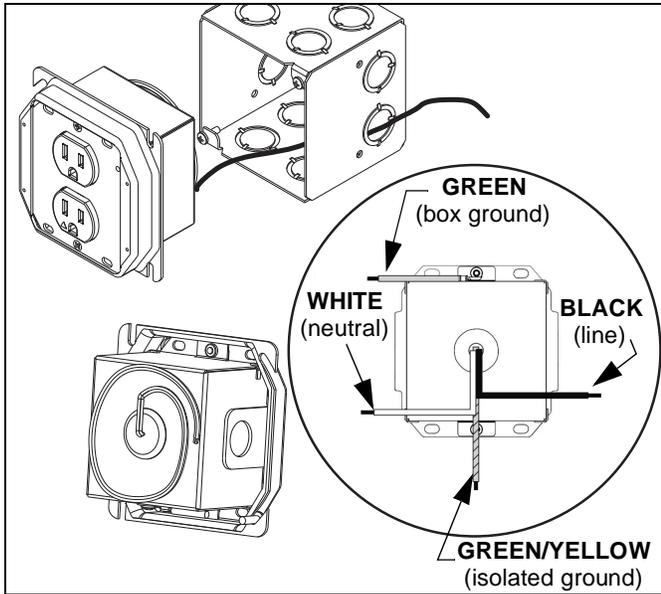

Figure 4
- Wire the outlet box as required. Refer to Table 1 and Table 2 for input and output specifications. (See Figure 4)
- Wire the outlet box as required. Refer to Table 1 and Table 2 on page 6) for input and output specifications. (See Figure 4)